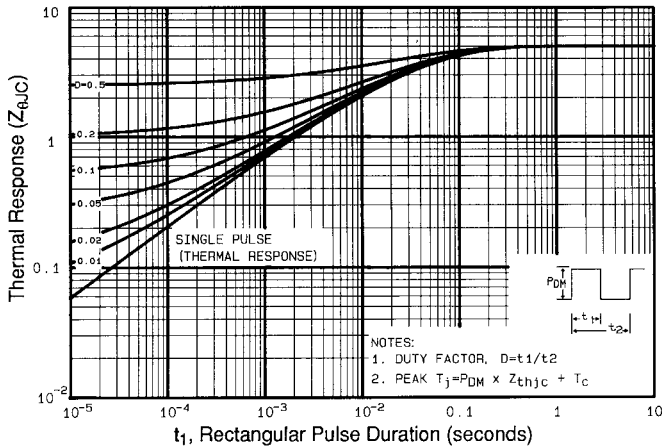

Fig 11. Maximum Effective Transient Thermal Impedance, Junction-to-Case
- ① Repetitive rating; pulse width limited by max. junction temperature (See Figure 11)
- ② $V_{DD}=50V$, starting $T_J=25^\circ\text{C}$, $L=28\text{mH}$